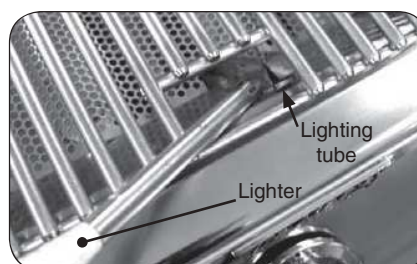

Fig. 15-2 - Manual lighting
2. Insert either a burning long-barrel butane lighter or a burning long-stem match through the cooking grid opening to the top of the lighting tube. (Fig. 15-2). For backburners, hold the flame against the surface of the backburner. For sideburners, hold the flame against the burner.
4. If the burner does not light, **immediately depress the knob and turn the valve to OFF**. **WAIT FIVE (5) MINUTES** before repeating steps 2 through 4 of the **MANUAL LIGHTING** instructions.